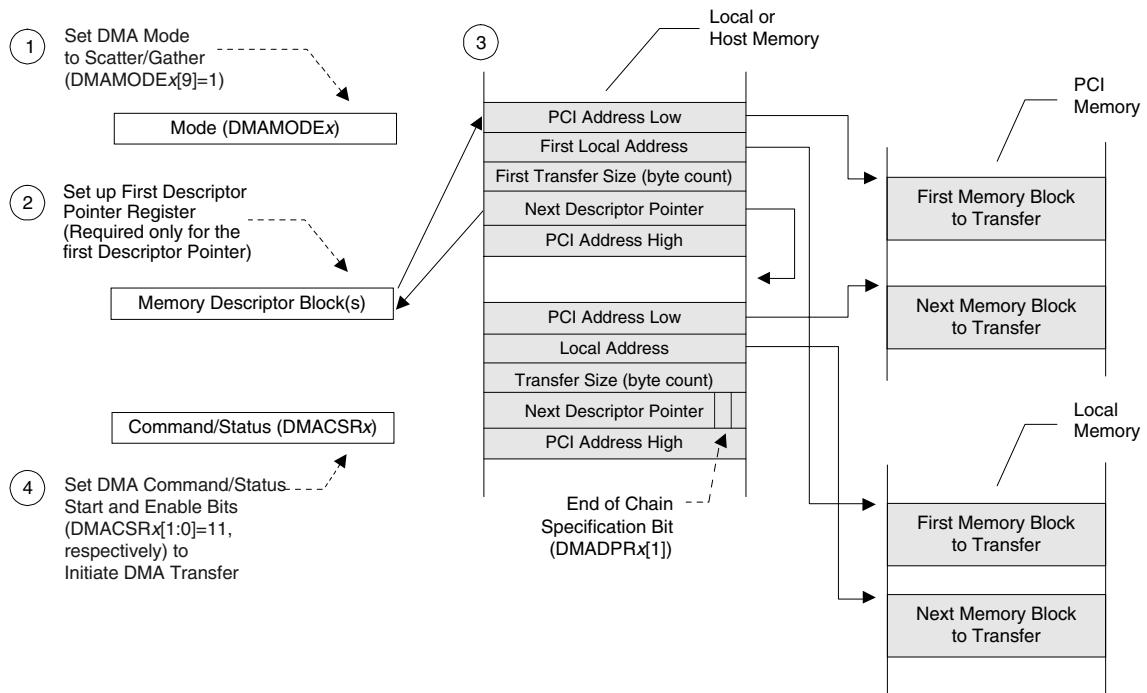

Figure 5-18. DMA Scatter/Gather Mode Descriptor Initialization [DAC PCI Address (DMAMODEx[18]) Descriptor Dependent (PCI Address High Added)]
- DMADACx contain(s) a value of 0h. DMAMODEx[18] is set to 1. The PCI 9056 performs a SAC 5-Word descriptor block load from PCI memory and DMA transfer with PCI DAC on the PCI Bus. (Refer to Figure 5-18.) The DMA descriptor block starting addresses should be 32-byte-aligned.
- DMADACx contain(s) a non-zero value. DMAMODEx[18] is set to 1. The PCI 9056 performs a SAC 5-Word descriptor block load from PCI memory and DMA transfer with DAC on the PCI Bus. The fifth descriptor overwrites the value of the DMADACx register(s). (Refer to Figure 5-18.) The DMA descriptor block starting addresses should be 32-byte-aligned.